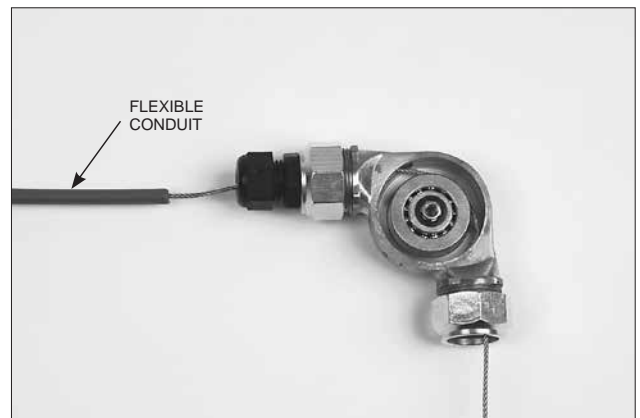

FIGURE 4-54
6. Push the wire rope into the flexible conduit. See Figure 4-54.